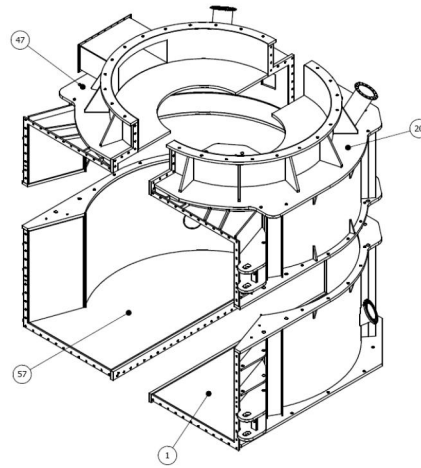

Figure 2: Lower Body Segmentation
Mill Lower Body: The lower body is a fabricated A-36 steel cylindrical construction consisting of four (4) Lower Body segments, with the dimensions as noted above, to minimize shipping window. The segments have machined flanges for bolting together in the field (figure 2).